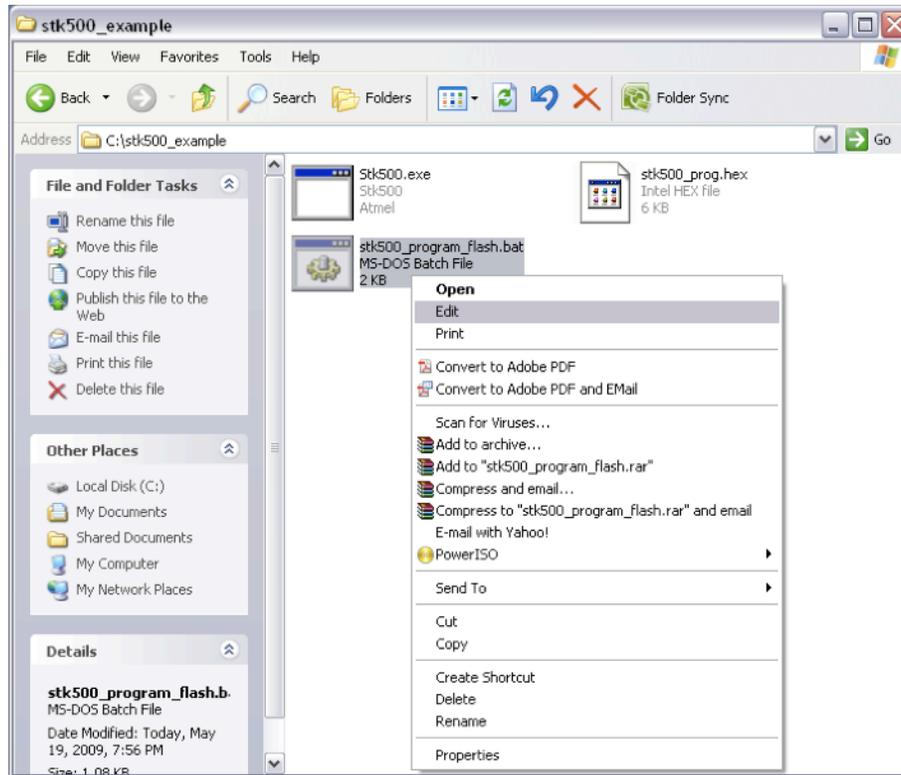

Figure 4.45 Screenshot of how to open a batch file to edit and not to run.
- 4.4.3.12** Create a new batch file or open the one created from steps 4.4.3.1 through 4.4.3.11. Go to the directory that contains the desired batch file, right click over the file, and select “Edit” as seen in Figure 4.45. This will open a batch file for editing (not running) in the default text editor (e.g. Notepad).